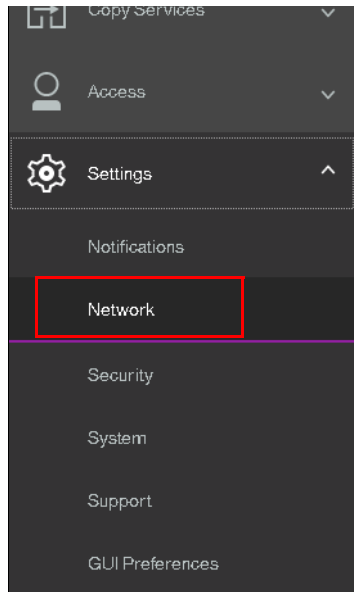

Figure 5-51 Opening the network settings view
- Go to **Settings** → **Network**, as shown in Figure 5-51 on page 235.